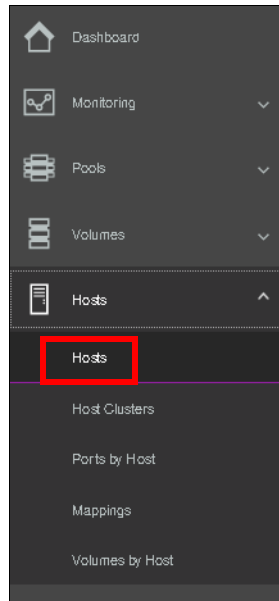

Figure 6-48 Hosts from main panel
6. You can verify the host mapping by clicking on **Hosts** from the main panel and selecting **Hosts** as shown in Figure 6-48 on page 309.